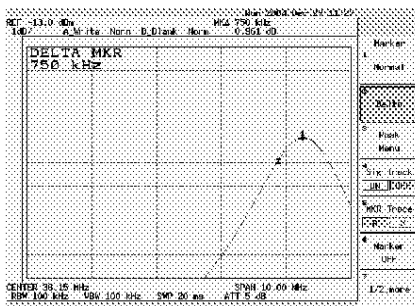

Fig. 1
- Calibrate C20 and L7 to tune the cell of I.C.P.M. to the frequency of the video carrier summing about 750kHz (Fig.1) with JP4 on and JP3 and JP5 off.